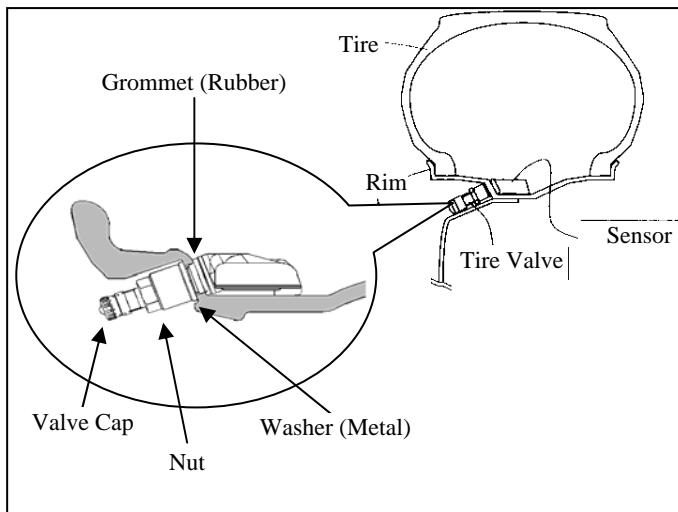

Figure 8
- Insert the tire pressure monitor valve sub-assembly into the valve installation hole from the inside of the rim and bring the valve stem to the outside. See Figure 8.